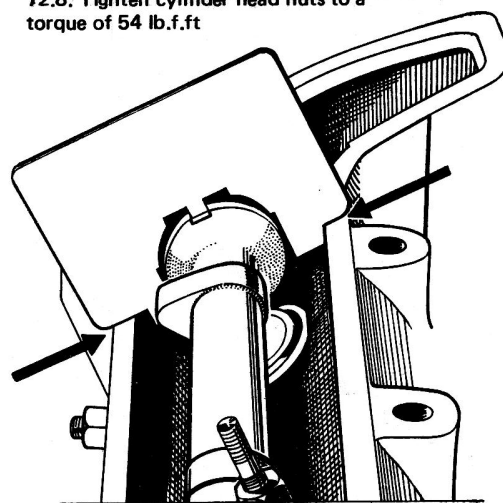

Fig.1.43. The valve timing gauge in position
- 4 Check that the slot in the camshafts are at 90° to the camshaft cover face and accurately position them by engaging the valve timing gauge. The valve timing gauge passes over the camshaft and rests on each side of the camshaft cover face and at the same time a projection engages in the camshaft slot and ensures that the slot is perpendicular, Fig.1.43 illustrates the gauge in position. It may be possible for you to borrow a gauge and apart from this no suitable alternative can be proposed for the accurate position required for the camshafts in actual valve timing (see Section 73).